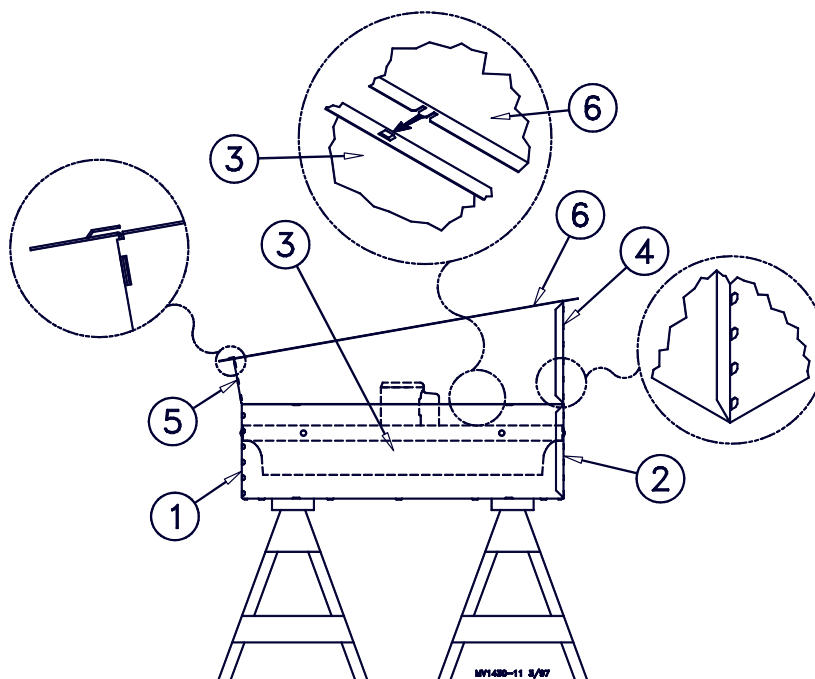

Figure 7. Slant Wall Housing Assembly (side view)
Refer to **Figure 7** for assembly information.
2. Set the Slant Wall Bottom Panel in place on the Fan Assembly. Secure the Bottom Panel to the Fan Assembly by inserting the tabs into the bridges, as shown in the detail in **Figure 7**.
3. Set the Slant Wall Side Panels in place on the Fan Assembly. The Slant Wall Side Panels are also secured to the Fan Assembly by inserting the tabs into the bridges, as shown in the detail in **Figure 7**.
4. Set the Slant Wall Top Panel in place on the Fan Assembly. Secure the Top Panel to the Fan Assembly by inserting the tabs into the bridges, as shown in the detail in **Figure 7**.